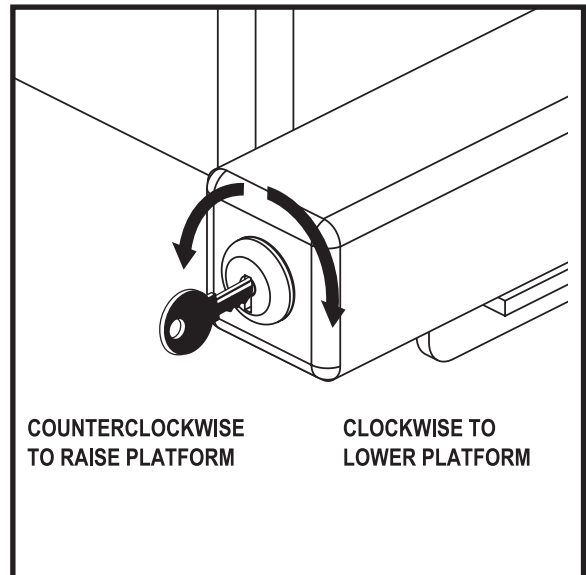

Figure 9. Key Switch Operation
2. Turn and hold the key clockwise to lower the lift platform. See figure 9. Release the key as soon as the lift platform touches the ground.
6. Turn and hold the key counterclockwise to raise the lift. See figure 9. Continue to raise the lift until the motor stops, then release the key.